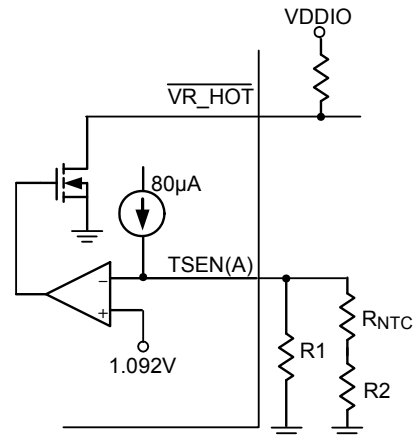

Figure 10. VR_HOT Circuit
The VR_HOT signal is an open-drain signal which is used for VR thermal protection. When the sensed voltage at TSEN(A) pin is less than 1.092V, the VR_HOT signal is pulled-low to notify CPU that the thermal protection needs to work. According to Intel VR definition, VR_HOT signal needs acting if VR power chain temperature exceeds 100°C. Place an NTC thermistor at the hottest area in the VR power chain and its connection is shown in Figure 10,